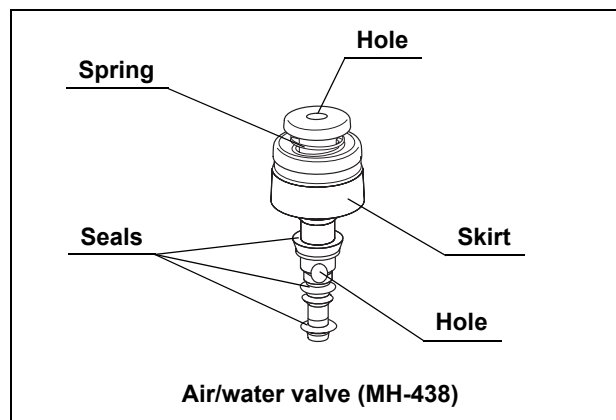

Figure 3.9
Confirm that the top hole of the air/water valve is not blocked (see Figure 3.9). If the hole is blocked, air is fed continuously and patient pain, bleeding, and/or perforation can result.
1. Confirm that the holes of the valves are not blocked (see Figures 3.9 and 3.10).
2. Confirm that the valves are not deformed or cracked (see Figures 3.9 and 3.10).
3. Check for excessive scratching or tears in the air/water valve's seals (see Figure 3.9).